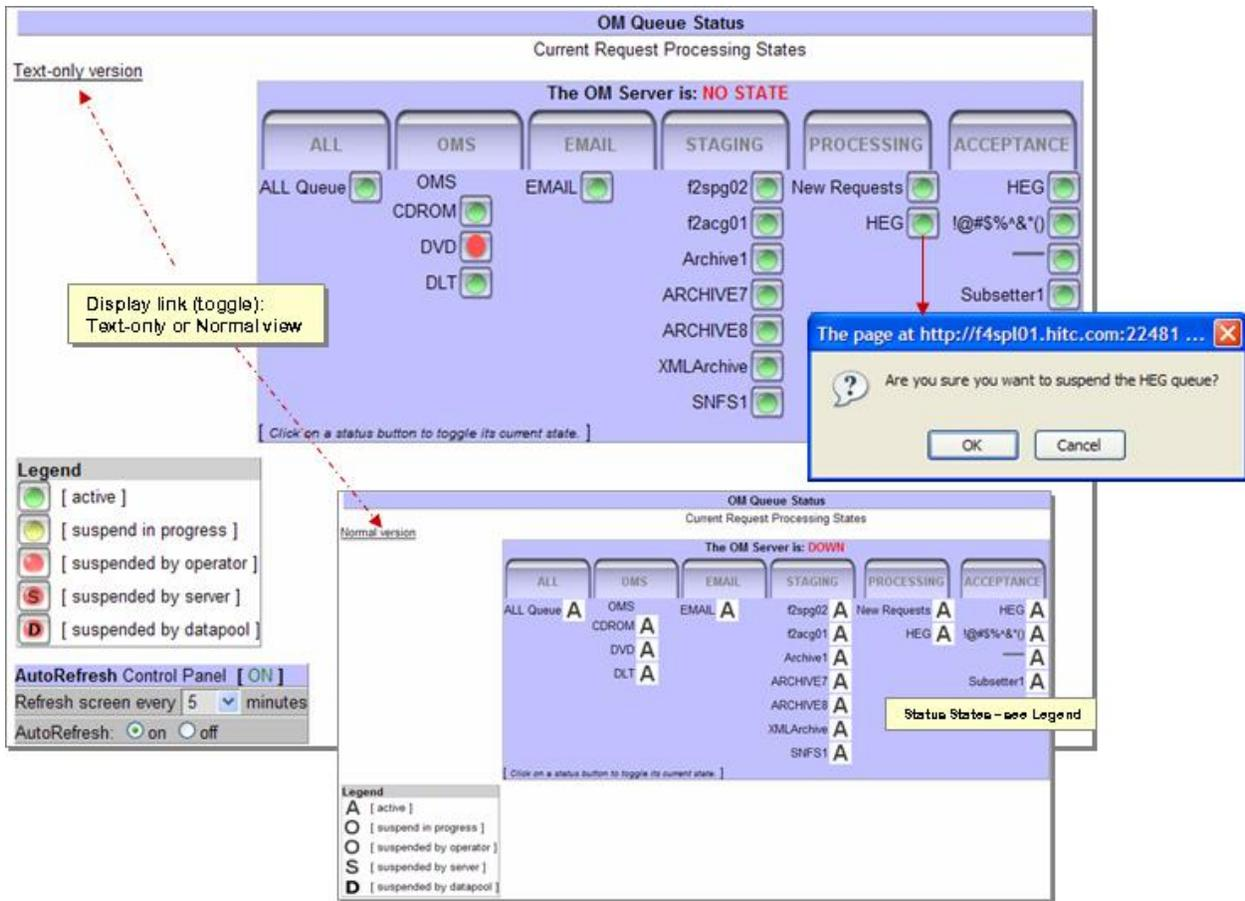

Figure 15.9-1. OM Queue Status Page
The **OM Queue Status** page (Figure 15.9-1) provides the full-capability operator with a means to monitor and modify the current status of request queues for all media as well as the request queues for OMS, e-mail, staging, and HEG. (The limited-capability operator can monitor but cannot change the status of queues.) In addition, the **OM Queue Status** page allows both full-capability and limited-capability Operators to determine the status (“up” or “down”) of the Order Manager Server.
- 2 Click **OM Queue Status** submenu option to display its page (Figure 15.9-1).
- Red (S)** – indicates that the queue was automatically suspended by OM Server. This is a non-Operator controlled event.
- Red (D)** – indicates that the queue has been suspended by Datapool.
- A confirmation dialog box displays asking, **Are you sure you want to <state> the <queue type> queue?** (Figure 15.9-1)